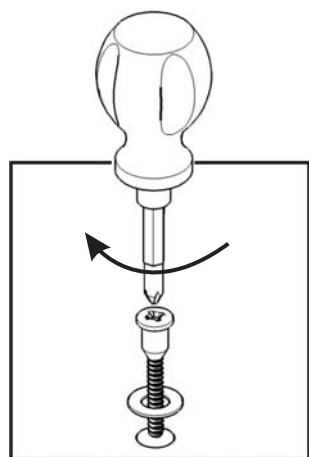

Figure 3
Attach Base (I) to unit with Washers, Long Screws and Cam Locks. (see Figure 3)
(Figure 3)
Insert short wood screws (4X) into the pre-drilled holes in L5, tighten screws. (See Figure 3)
Insert short wood screws (4X) into the pre-drilled holes in M5, tighten screws. (See Figure 3)